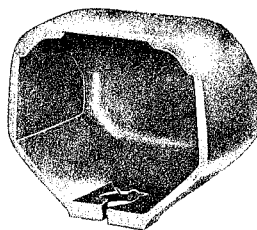

Fig. 6 — 150A Cover
3.02 *150A Cover* (Fig. 6) is used as a protective covering for the 123 type protector when mounted outdoors or in a dusty location. When this cover is used, the protector is mounted directly on the mounting surface. There is no code assigned to the combination of a protector and the 150A cover.